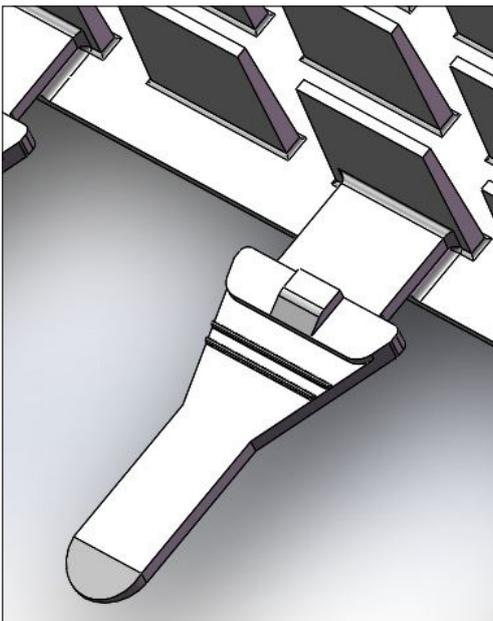

Figure 34. Cut Tabs
5. Use scissors to cut the tabs at the guides, as shown in Figure 34.